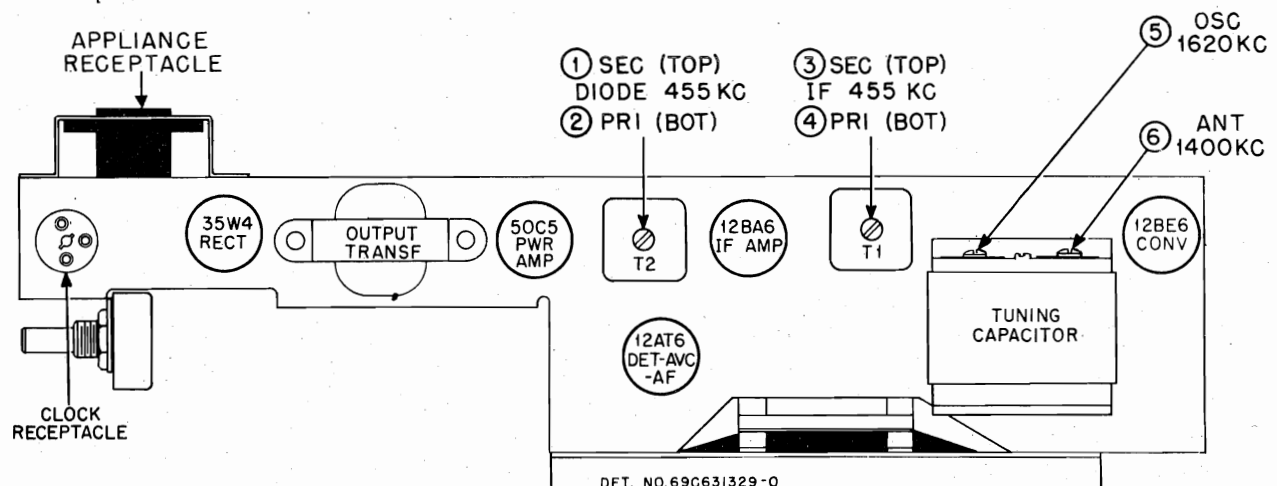

FIGURE 1. TUBE &amp; TRIMMER LOCATIONS
7. See Figure 1 for adjustment locations and the following chart for procedure.